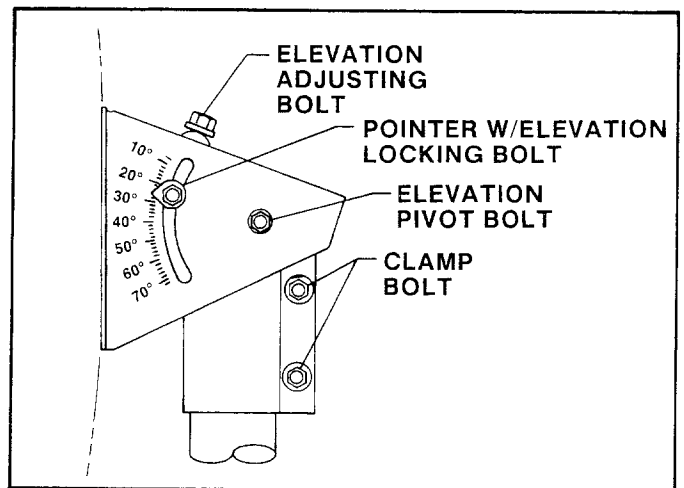

FIG. 2.1 - SETTING THE ELEVATION
- (2) Elevation (Ref. Fig. 2.1). See Charts, Pages 11-14.
To obtain elevation value for your satellite, refer to charts on Pages 11-14. Loosen bolts in curved slots (both sides), and pivot bolts (both sides) of AZ/EL Housing 1/4 turn (Ref. Fig. 2.1). Turn elevation adjustment bolt clockwise to decrease elevation and counterclockwise to increase elevation. Align the pointer with appropriate mark at the desired elevation reading (Ref. Fig. 2.1). This will be an approximate setting. Optimum setting achieved when fine tuning. Temporarily tighten elevation bracket nuts.